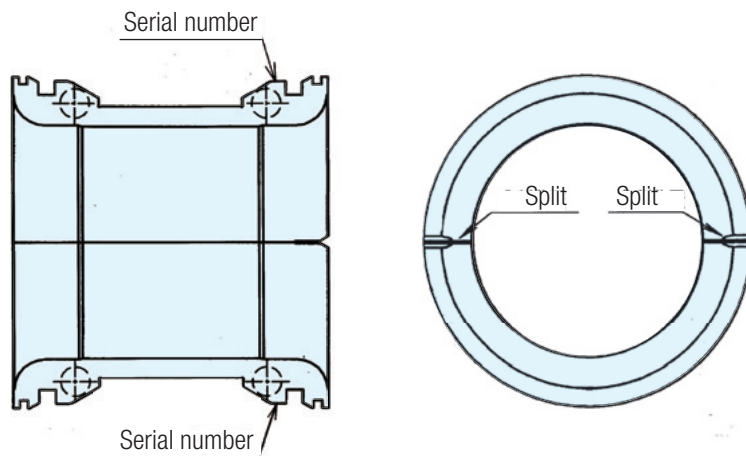

Fig.1 Serial Numbers and Matching Mark on the Bearing
- Before assembly, make sure to check that the serial number matches the matching mark shown in Figs. 1 and 2.